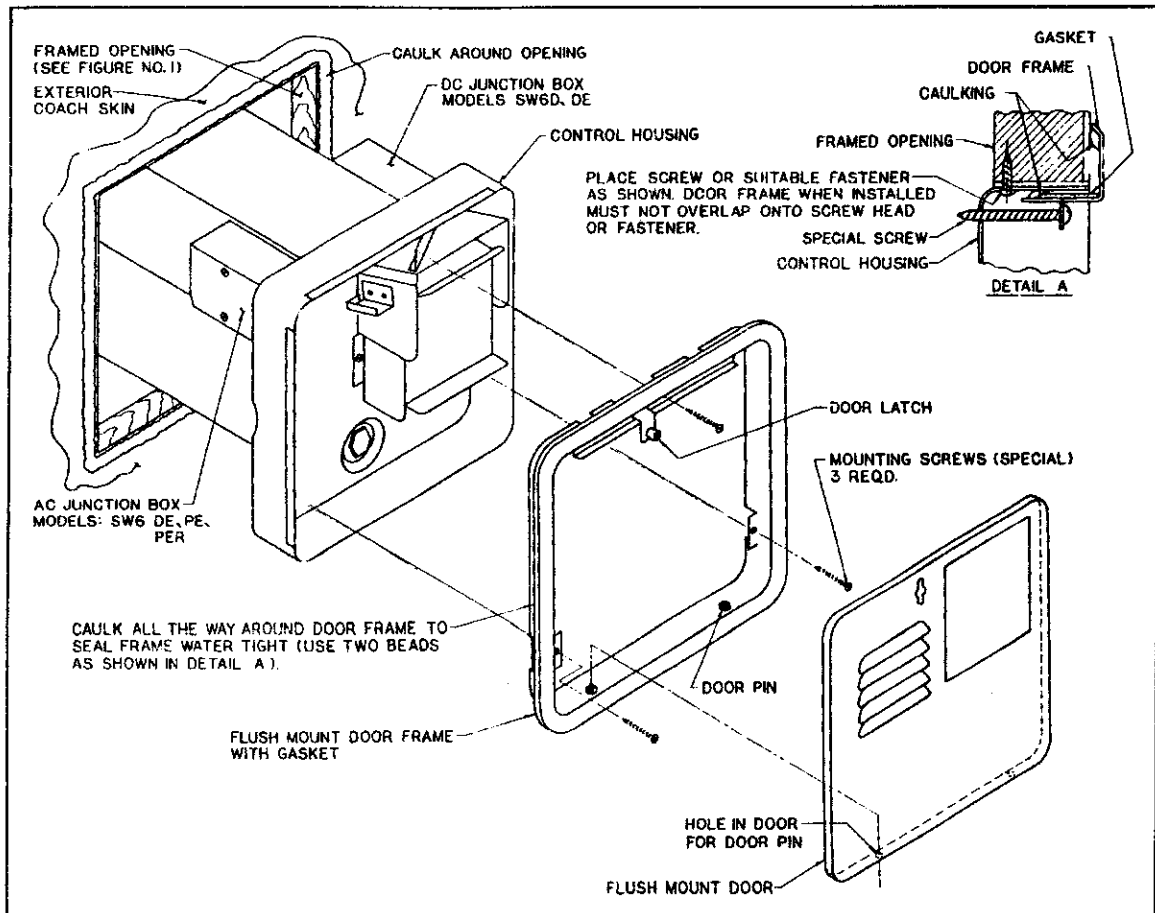

Figure 2
INSTALLATION USING FLUSH MOUNT FRAME & DOOR (See Figure 2 for Illustration)
A. Refer to Figure 2 for location of A.C. junction box on model SW6PE and SW6PER.